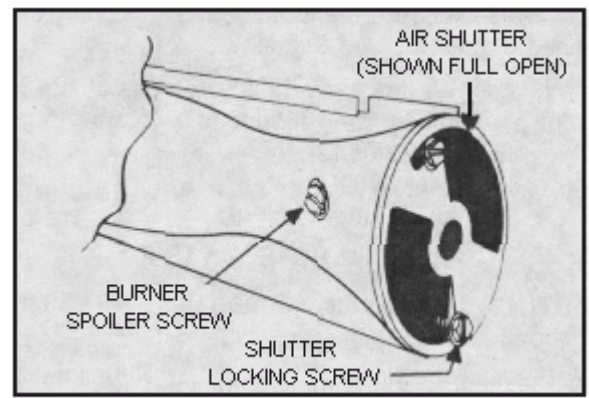

Figure 2
- Install a #8× 1" long sheet metal screw in the side of the burner, Figure 2. A pilot hole for the screw is already in the burner. Install screw only far enough into the burner to be effective in conjunction with the air shutter to obtain acceptable flame characteristics and noise level. Repeat adjustment as necessary using combination of spoiler screw and air shutter to obtain proper flame characteristics and acceptable noise level. Check to insure that adjustment has not caused any sooting. Tighten air shutter locking screws.